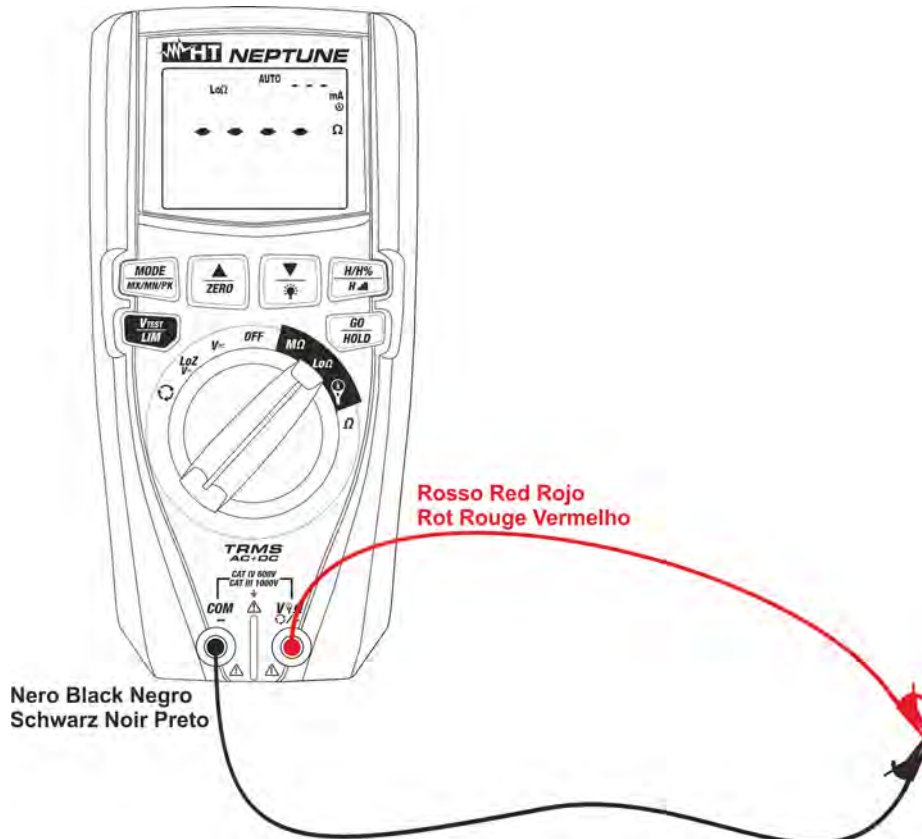

Fig. 32: Connection of the cables in compensation function
2. Insert the test cables into input terminal **V Ω /+/+** and **COM/-**, connect the alligator clips and short-circuit the cable ends between each other (see Fig. 32).